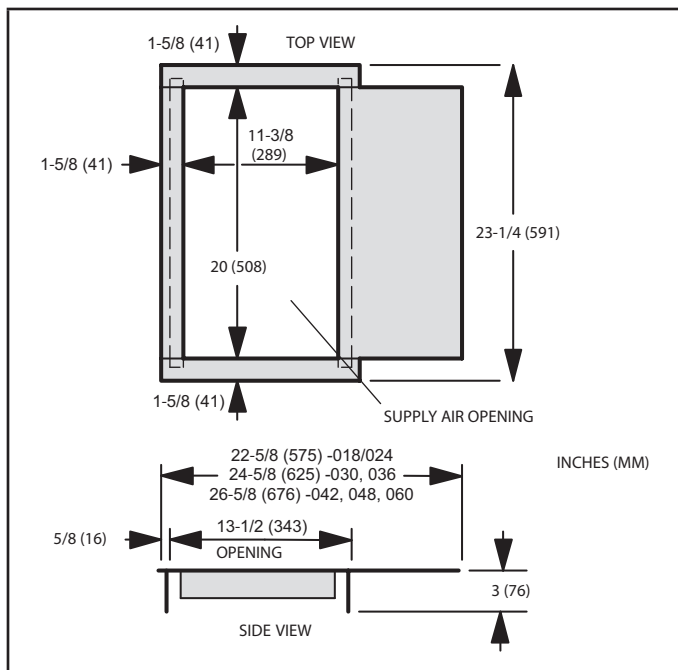

FIGURE 19. Downflow Combustible Base Dimensions
- 11 - Cut an opening appropriately sized for combustible base. Base dimensions are illustrated in figure 19. After opening has been cut, set the additive base into opening. Connect outlet air plenum to the additive base. Set the unit on the additive base so flanges of the unit drop into the base opening and seal against the insulation strips. The unit is now locked in place. Install return air plenum and secure with sheet metal screws.